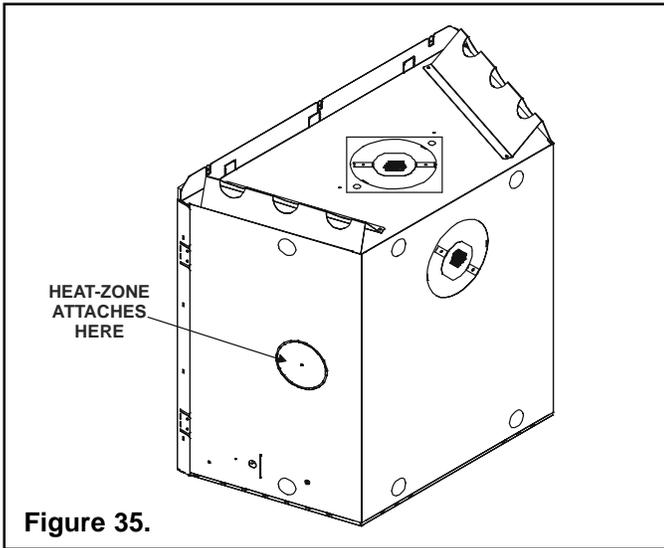

Figure 35.
1. Remove the knockout from the fireplace and discard it (see Figure 35).